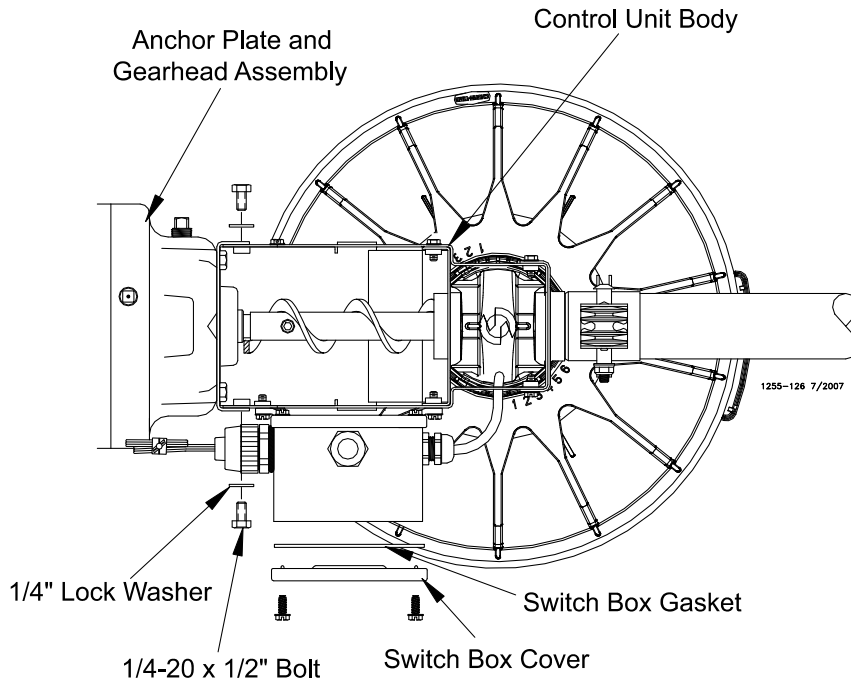

Figure 41. Attaching the Anchor Plate and Gearhead Assembly to the Control Unit Body
7. Attach the Anchor Plate and Gearhead Assembly to the Control Unit Body using the included 1/4" Lock Washers and 1/4-20 x 1/2" Bolts. See **Figure 41**.